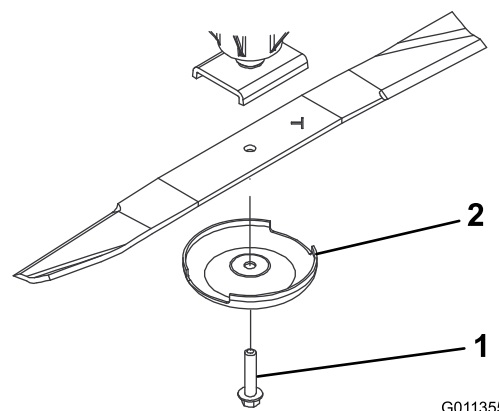

Figure 68
2. Grasp the end of the blade using a rag or thickly padded glove. Remove the blade bolt, anti-scalp cup, and blade from the spindle shaft (Figure 68).
3. Install the blade, sail facing toward the cutting deck, with the anti-scalp cup and blade bolt (Figure 68). Tighten blade bolt to 115–149 N-m (85–110 ft-lb).